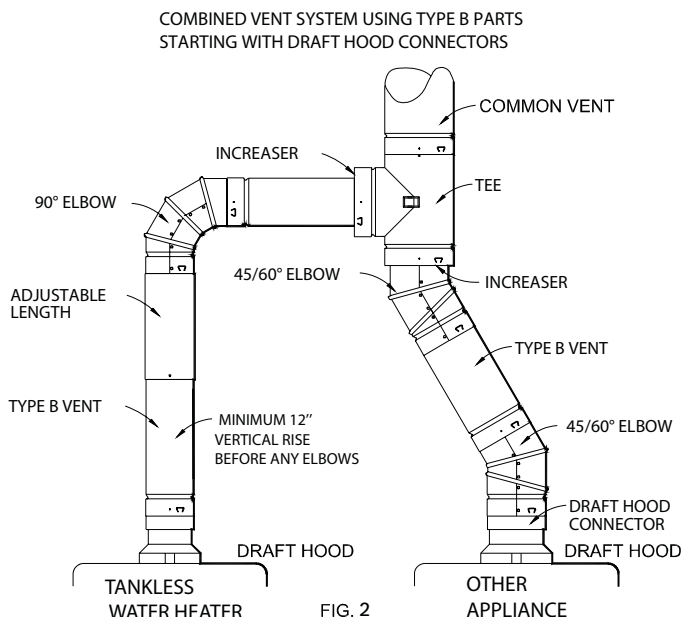

FIG. 2
**5. VENT CONNECTOR TYPE AND SIZE (See Fig. 2.)**